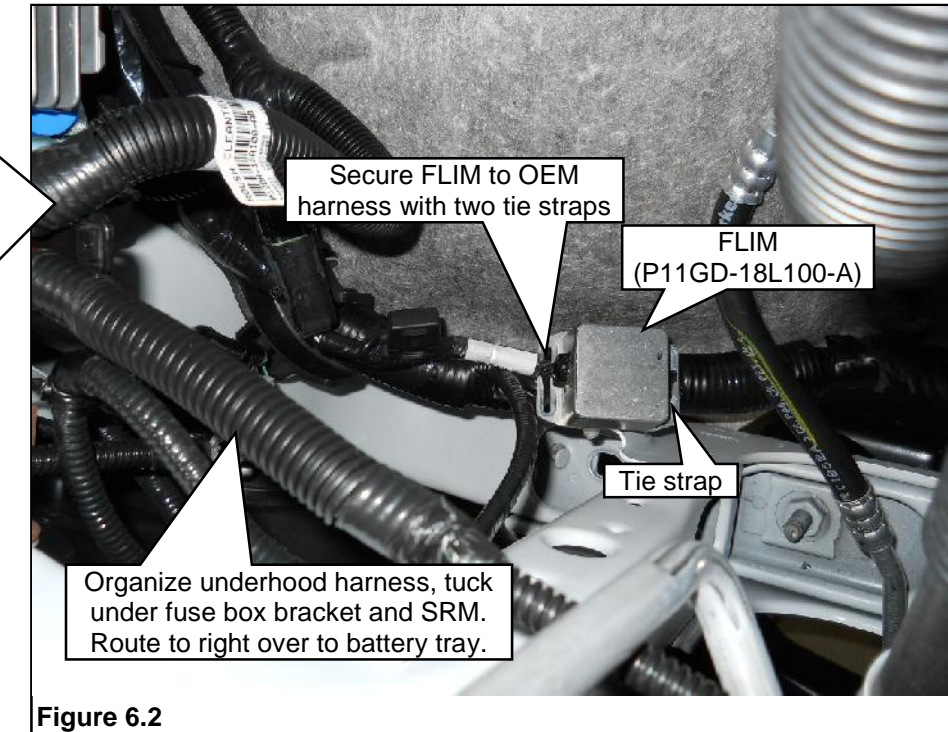

Figure 6.2
4. Plug in the fuel level interface module (FLIM) connector (and in-line fuse) to the underhood harness FLIM connection. Use two zip ties to secure the FLIM to the OEM wiring harness as shown. **Figure 6.2.**
5. Bundle the underhood harness toward the front of the inner fender down in the corner. Tuck the underhood harness under the fuse box bracket and SRM as neatly as possible. **Figure 6.2.**